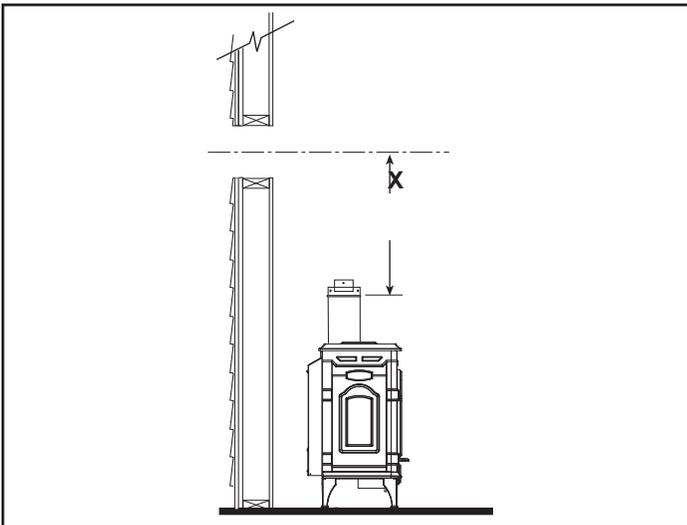

Figure 24 - Determine the vertical pipe length.
4. **For Hearth and Home Technologies Vent Pipe only:** If necessary, measure to determine the vertical length (X) of pipe required from the adapter pipe to the wall cutout centerline, including a 2" (51mm) overlap at the joint. (Figure 24) use a hacksaw or tin snips to trim the pipe as needed.